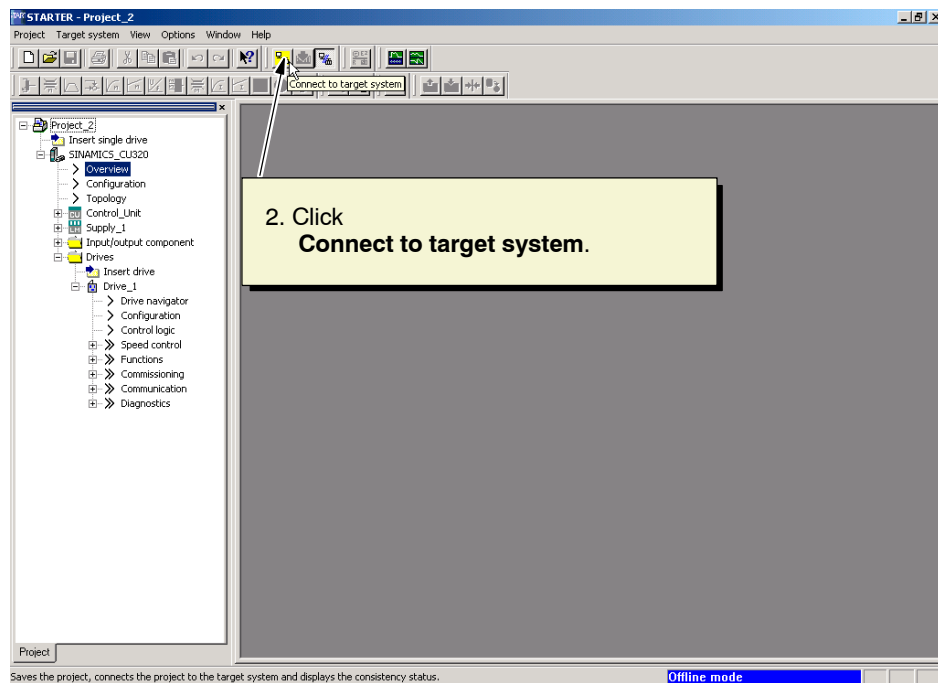

Fig. 4-1 Project navigator with SINAMICS_CU320
2. To use the “control panel” function, you have to switch to ONLINE mode. To switch to ONLINE mode, click the function key **Connect to target system** (as shown in Fig. 4-1).